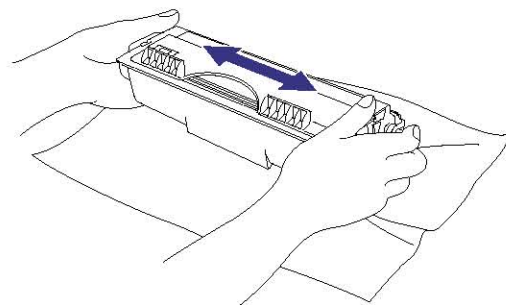

Fig. 5-3
- (1) Open the front cover, and pull out the drum unit from the printer.
- (2) Place the drum unit containing the old toner cartridge on a flat, horizontal surface and remove the toner cartridge from the drum unit while pushing the lock lever down with your right hand.
- (3) Unpack the new toner cartridge and gently rock it from side to side 5 or 6 times keeping it horizontal. (Fig. 5-3)